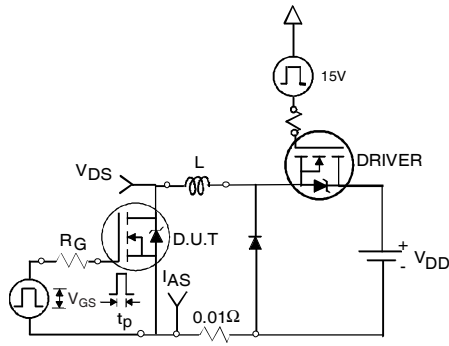

Fig 12a. Unclamped Inductive Test Circuit
- ③ Pulse width $\leq 1.0\text{ms}$; duty cycle $\leq 2\%$.
- ④ $C_{oss \text{ eff.}}$ is a fixed capacitance that gives the same charging time as C_{oss} while V_{DS} is rising from 0 to 80% V_{DSS} .
- ⑤ Limited by T_{Jmax} , see Fig.12a, 12b, 15, 16 for typical repetitive avalanche performance.
- ⑥ This value determined from sample failure population. 100% tested to this value in production.
3. Equation below based on circuit and waveforms shown in Figures 12a, 12b.